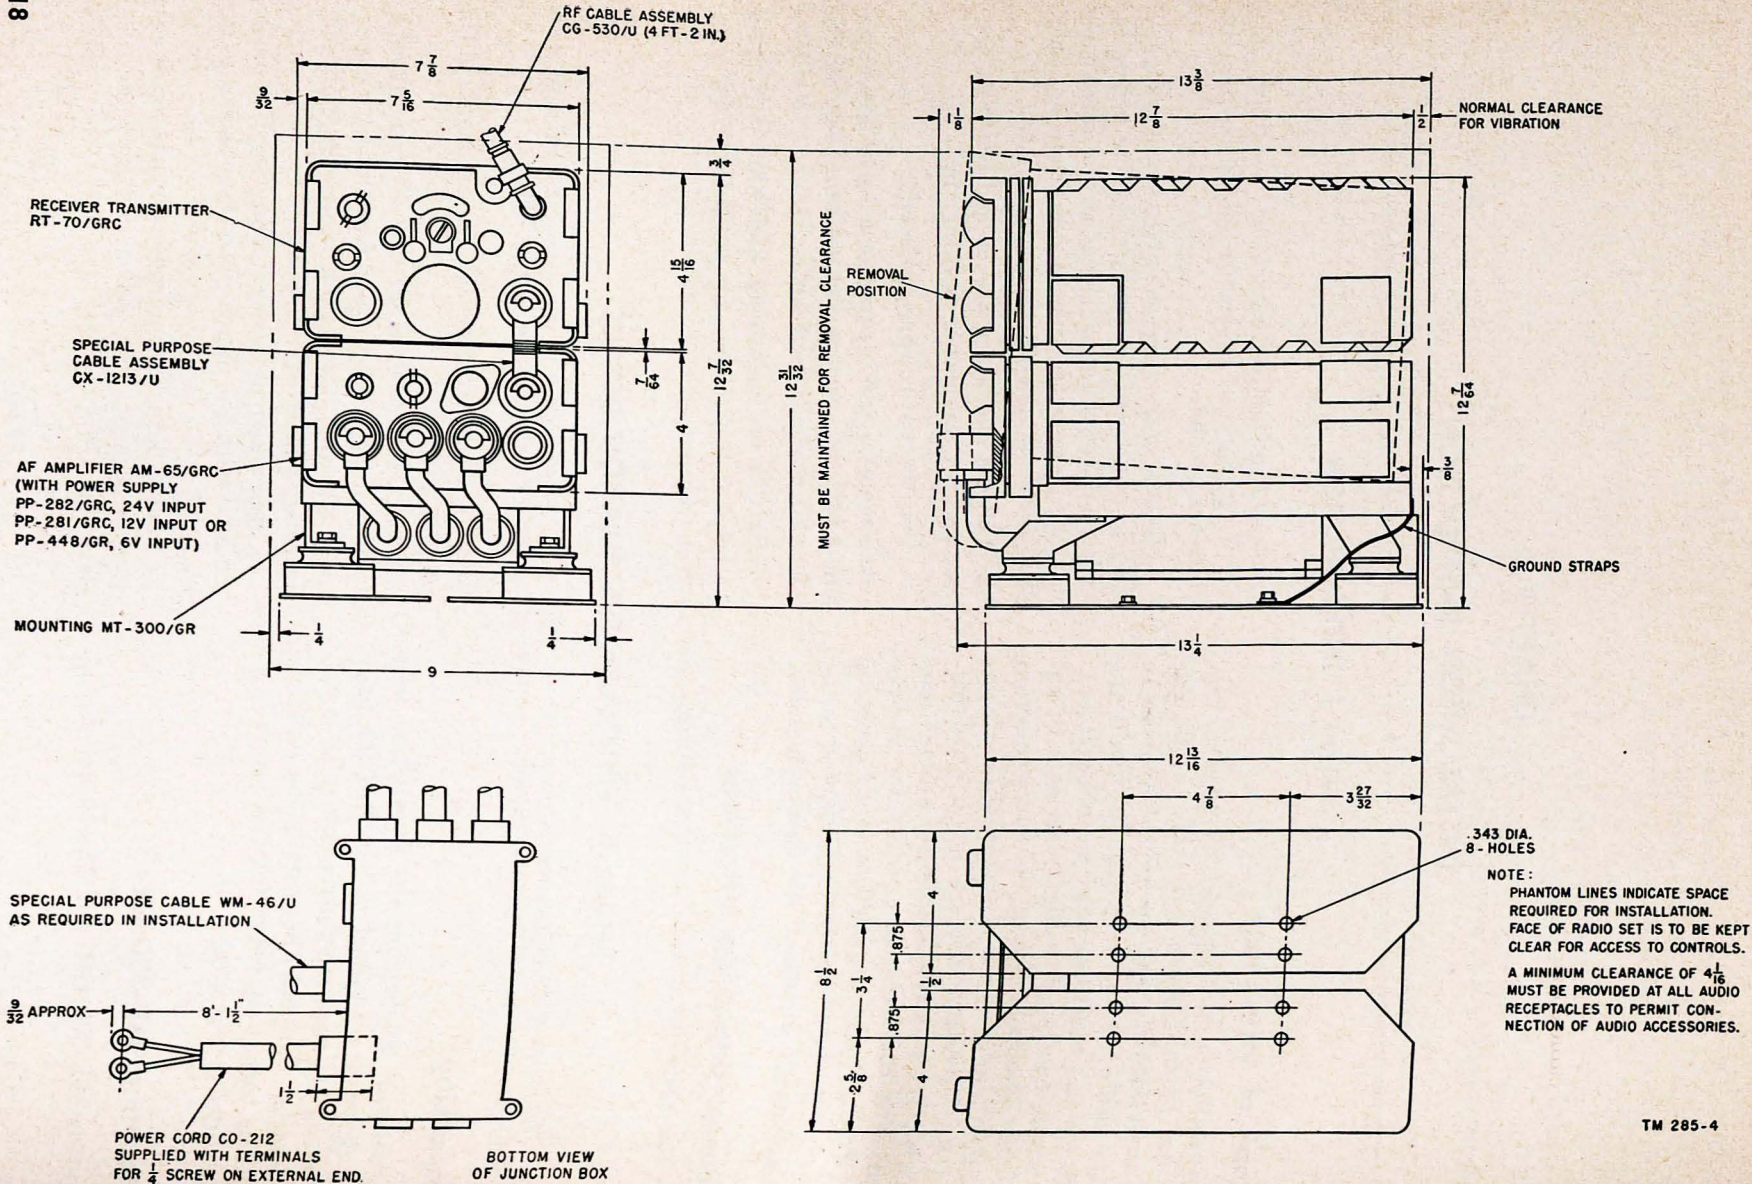

Figure 16. Radio Set AN/VRC-7, outline drawing.
a. Locate Mounting MT-300/GR according to the installation instructions for the particular vehicle. In any installation allow the minimum clearances indicated in figure 16.
b. Spot and drill the eight mounting holes in accordance with the dimensional data shown in figure 16.